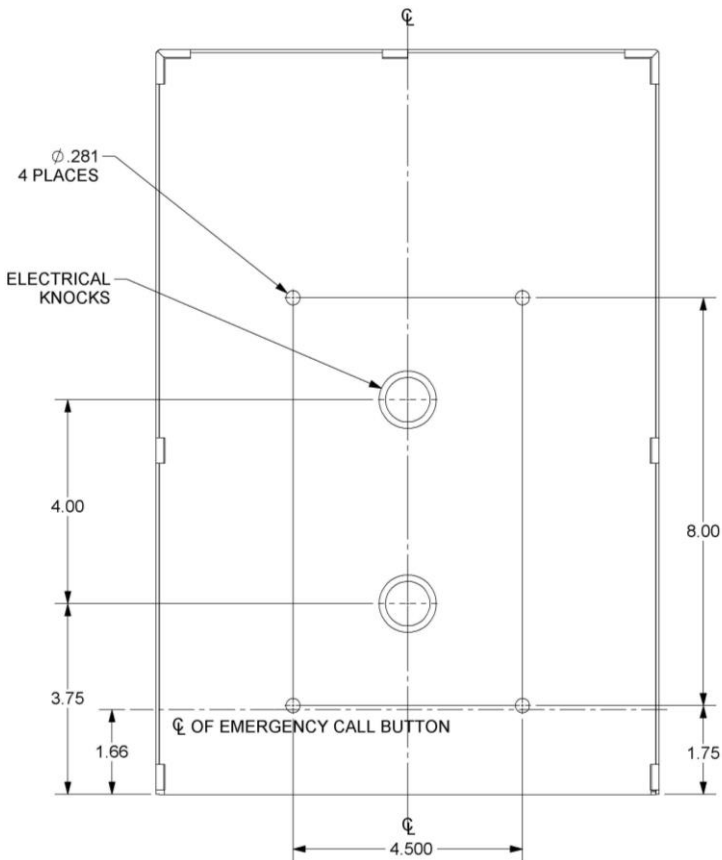

Figure 1. Mounting information
2. Mount backbox using appropriate hardware. (See Figure 1).